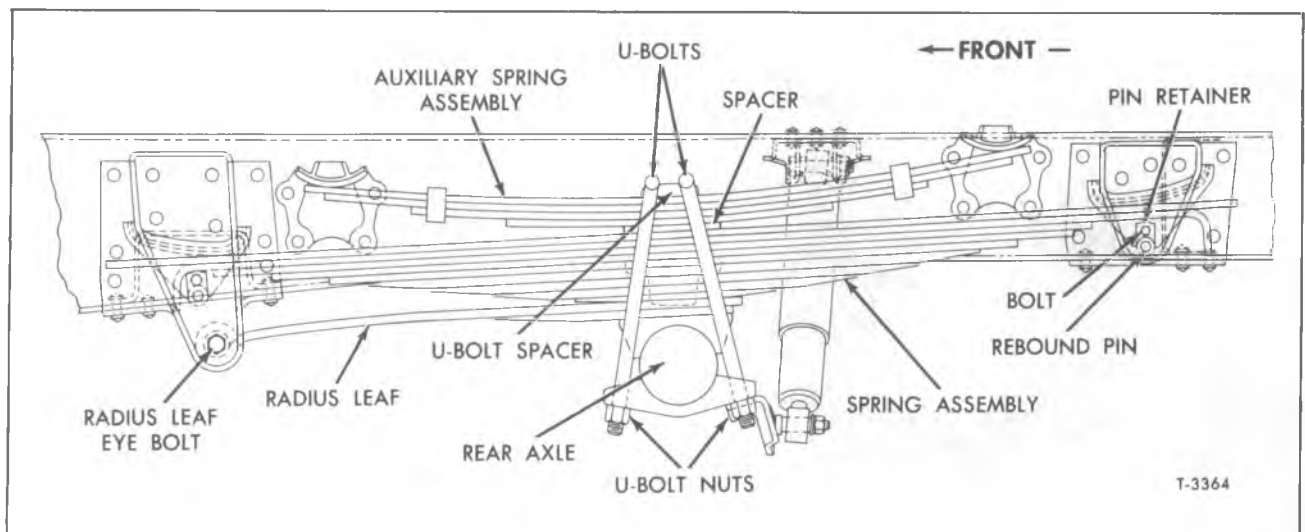

Figure 1—Rear Springs Installed (Series 40) (Typical)
Progressive type, two-stage rear springs, as used on all 40 Series (refer to figure 1), have a straight-ended main leaf which rests against the cam surface of the front and rear hangers. Cam action of the spring leaf produces a variable deflection rate as contact point changes under varying load. The second or third leaf has hooked ends which contact rebound pins in the spring hangers to prevent excessive fore and aft travel in event of radius leaf rod failure.
#### REAR SPRING REMOVAL (Figs. 1, 2, and 3)
4. On 40 Series (see figure 1), at the front and rear hanger, remove rebound pin retainer bolt, then remove retainer. Install suitable puller
(Refer to Figs. 1, 2, and 3)